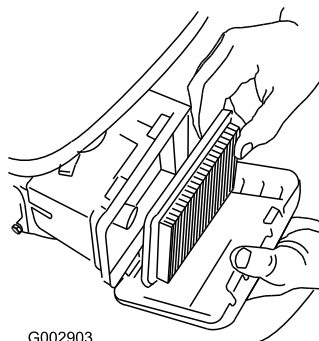

Figure 41
3. Remove the air filter (Figure 41).